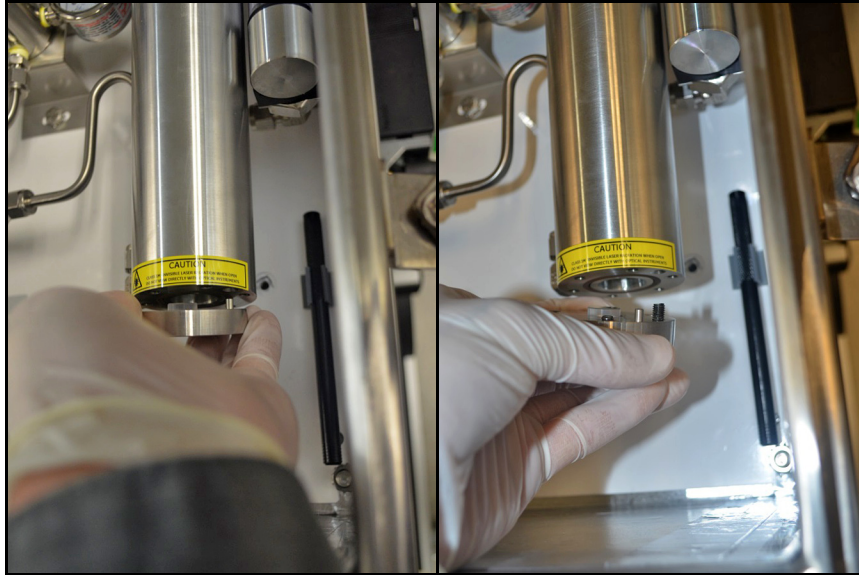

Figure 86: Reinstalling the Mirror End Cap Assembly
11. As you line up the mirror with the measurement cell, note the “key” for properly connecting the two pieces. The mirror will align for mounting in only one position. Rotate the mirror assembly to line up the alignment pin with the alignment pin slot (see *Figure 86* below).